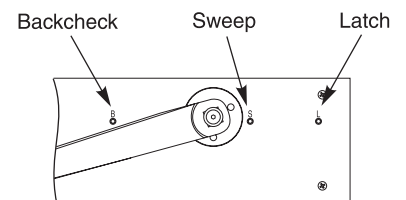

Figure 8
1. With provided 1/8" hex wrench, completely tighten latch and sweep valves by turning screws clockwise. This will allow for an easier closer-to-door connection. (Figure 8)